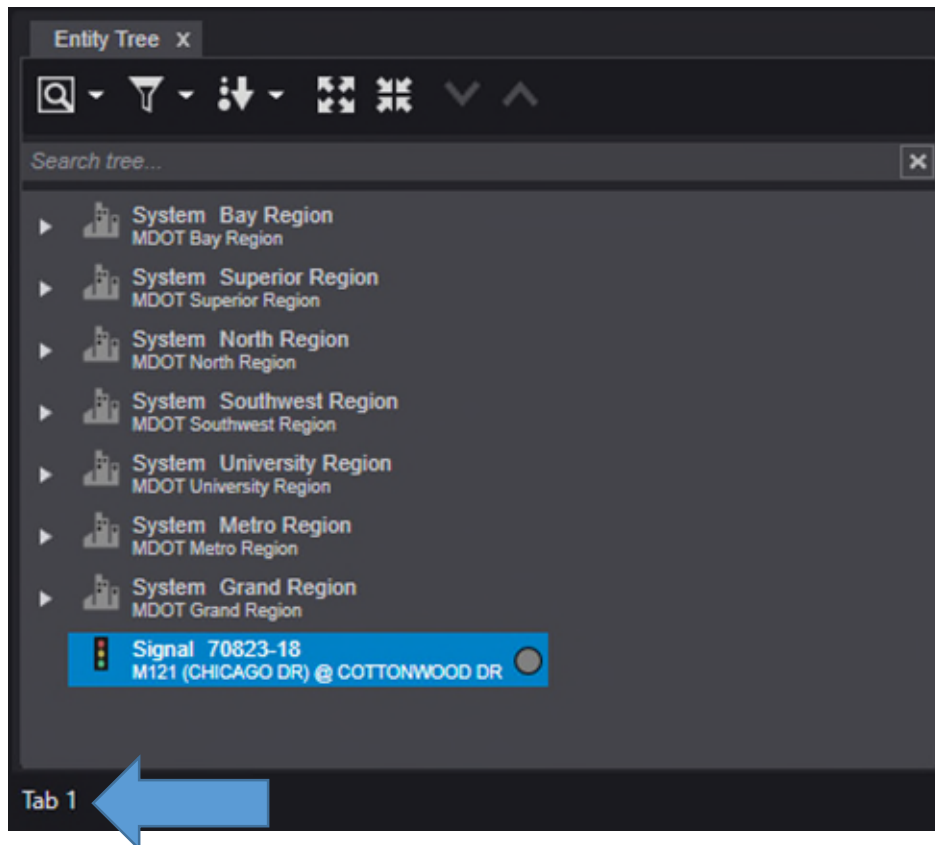

Figure 23: The Centracs interface showing the MDOT Entity Tree and a hidden container named Tab 1 at the bottom of the window.
2. Select the side of the Main Container Window for the hidden container. Figure 23 shows the result of selecting the left side of the Main Container Window for the new hidden container.